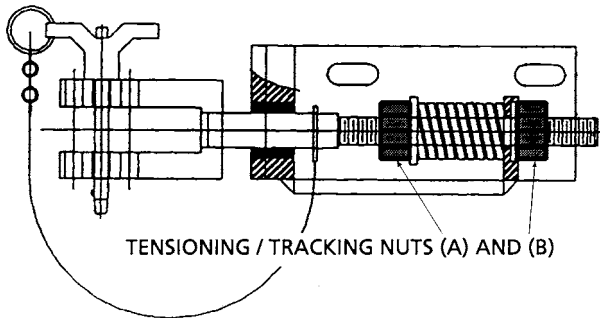

FIGURE 7
3. If the belt does not remain centered, referring to Figure 7, tighten or loosen nuts (A) and (B), or their counterparts on the other end of the tail pulley to shift the belt toward the center of the pulley.